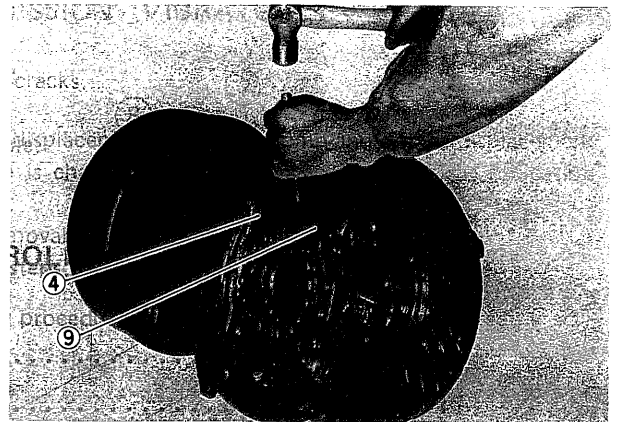

Fig. 57
- 2) Matchmark carrier (4) and bearing caps (9). (Fig. 57)